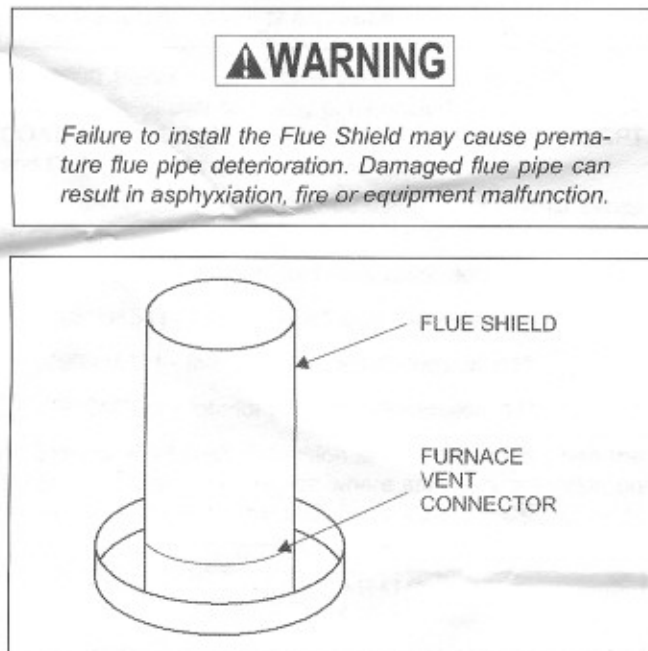

FIGURE 2 - Flue Shield Installation
1. CGAT, COAS and COAT furnace only. install Flue Shield inside Vent Connector. Push Flue Shield down until in contact with the built-in stop inside the Vent Connector. See Figure 2.